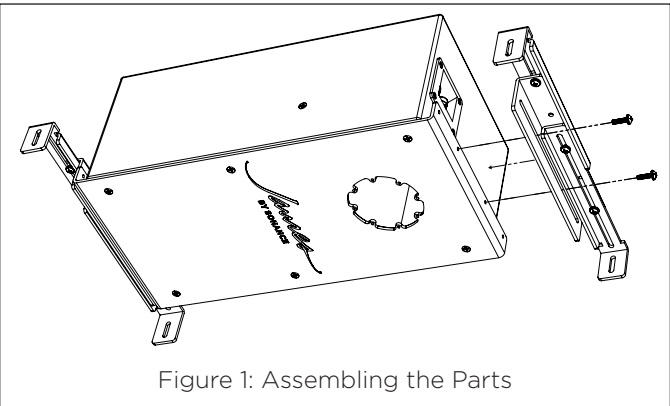

Figure 1: Assembling the Parts
1. Attach the brackets to the SA68-ENC using the supplied 8/32 screws, lock washers, and flat washers (see Figure 1).